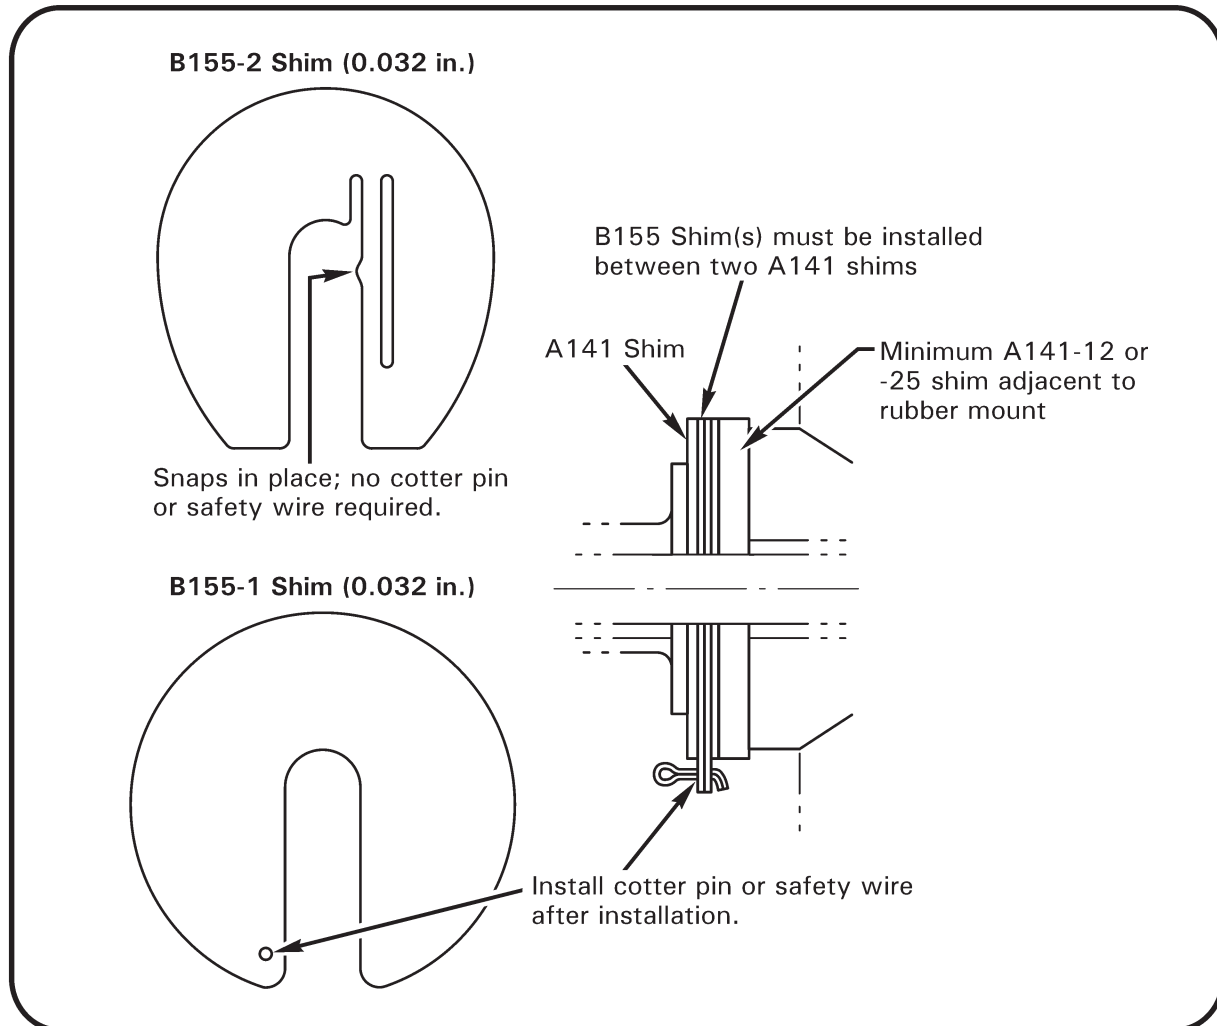

FIGURE 6-2A B155 ENGINE SHIM
5. Loosen upper-left and lower-left engine mount bolts. Leaving right engine mounts torqued, install selected shim(s) between lower-left frame and lower-left engine mount pad. Slotted shims, if used, may be stacked together but must be installed between unslotted shims and safetied. See Figure 6-2A.